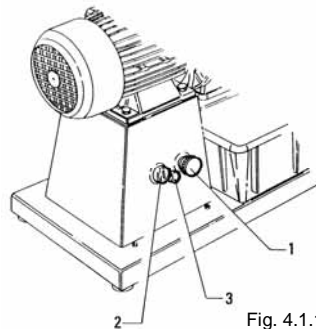

Fig. 4.1.1
5.3 - Checking the efficiency of the stop pushbutton (fig. 4.1.1)
While the machine is connected to the power supply and the utensil is moving press the pushbutton "2" fig. 4.1.1. The machine must stop
- Set the differential switch fitted upstream at "I". The light indicator "3" fig.4.1.1 will light up, indicating that the machine is powered
- Press the start pushbutton "2" (fig. 4.1.1) to start the machine.
- Press the stop pushbutton "1" fig 4.1.1 to stop the running of the machine; the light indicator "3" fig. 4.1.1 will remain on to indicate that the machine is powered.
2. Set the differential switch in position "I". The lit indicator "3" fig. 4.1.1, indicating that the machine is powered, must be illuminated.
3. Press the pushbutton "2" fig. 4.1.1 to start and immediately afterwards press the stop one "1" fig. 4.1.1, checking the rotation direction of the roller.